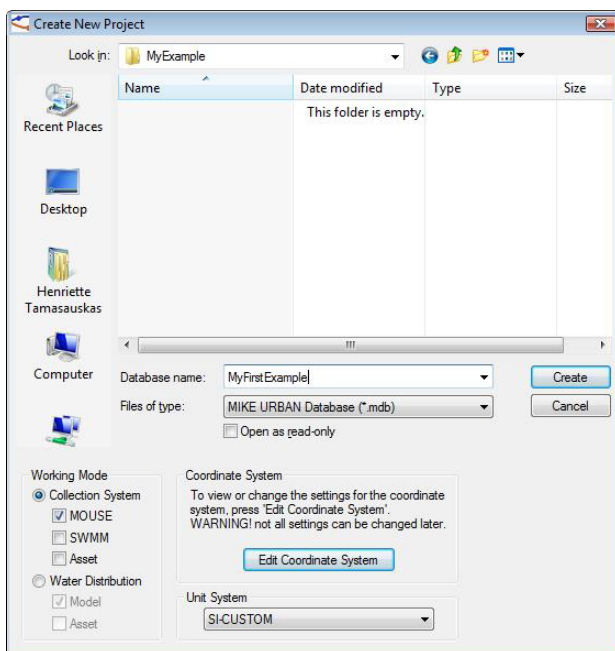

Figure 2.18 Creating a new project
- On the dialog that comes up, see Figure 2.18 choose Working Mode to be either Collection System or Water Distribution